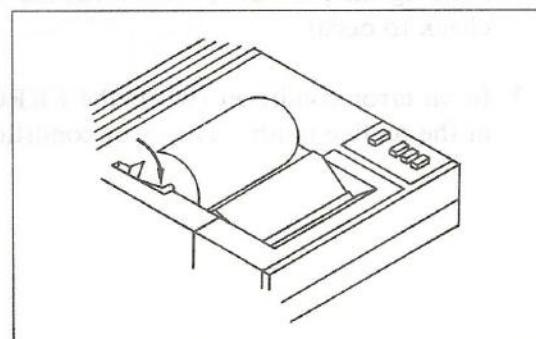

Fig. 4
- (5) When the paper end appears through the cutter, lower the roll bar. The printer is now ready for use. (Figure 4)